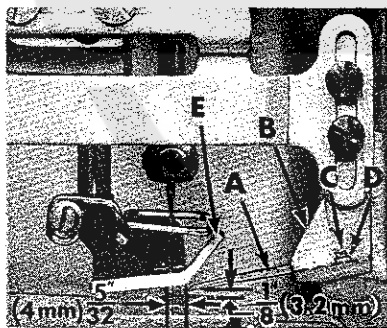

Fig. 14
Assemble the stripper blade (A, Fig. 14) to the stripper blade holder using screws (C) and washers (D) with the front edge of blade square with the toe of the presser